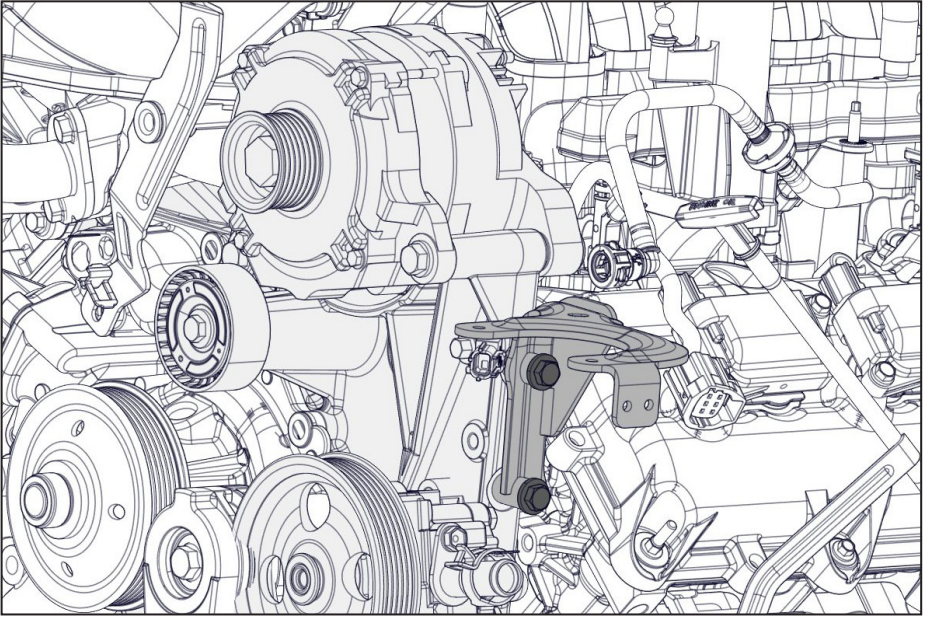

Figure 11 — Remove vacuum pump bracket
- ☐ **Vehicles equipped with vacuum pump only:** Remove and discard the vacuum pump bracket and fasteners (Figure 11).